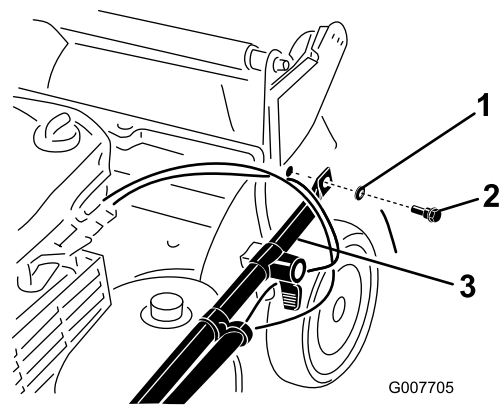

Figure 4
2. Attach the handle ends to the mower housing with 2 washers and 2 handle bolts (Figure 4), **but do not tighten the handle bolts.**
**Important:** Route the cables to the *outside* of the handle (Figure 4).